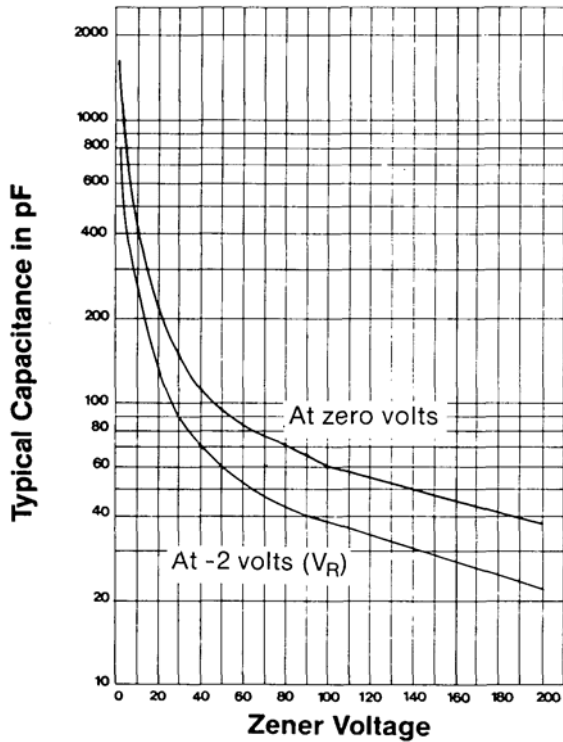

FIGURE 3
- Capacitance also specified (see Figure 3)